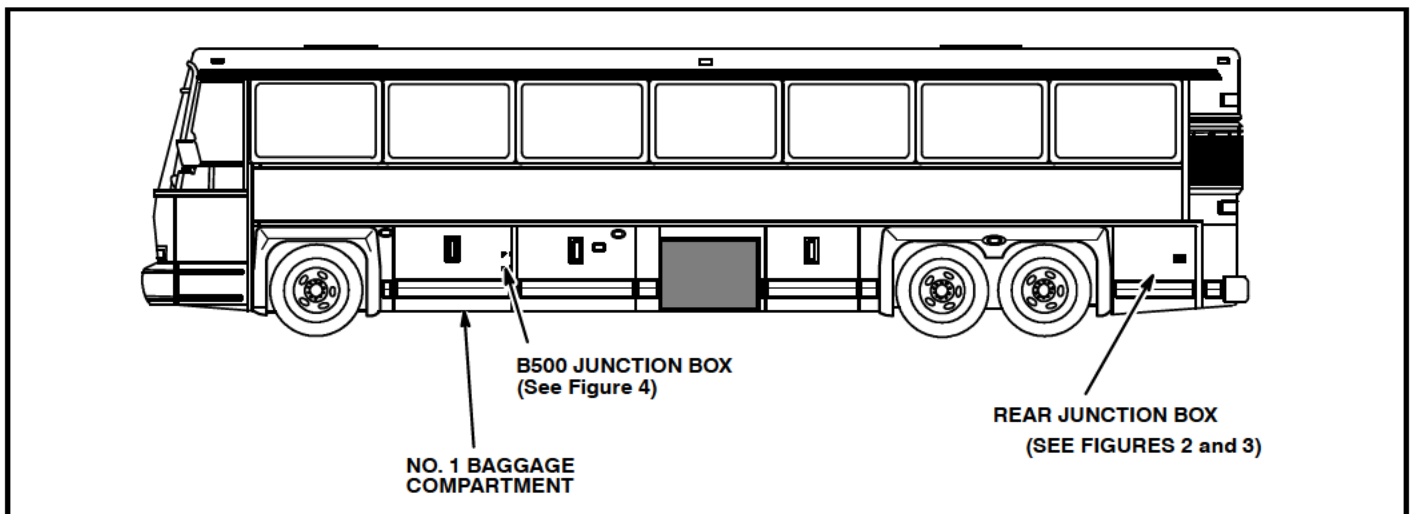

Figure 1 Location of Rear J-box and B500 Junction Boxes
5. Install the diode assembly to the neutral start relay located in the rear junction box, which is accessible through the left-hand side engine service door (Figures 1, 2 and 3).
6. Disconnect the connectors from the ECU and unbolt the ECU from the mounting plate. The ECU is located in the B500 junction box, which is located on the rear wall of the #1 LH baggage bay (Figure 1).